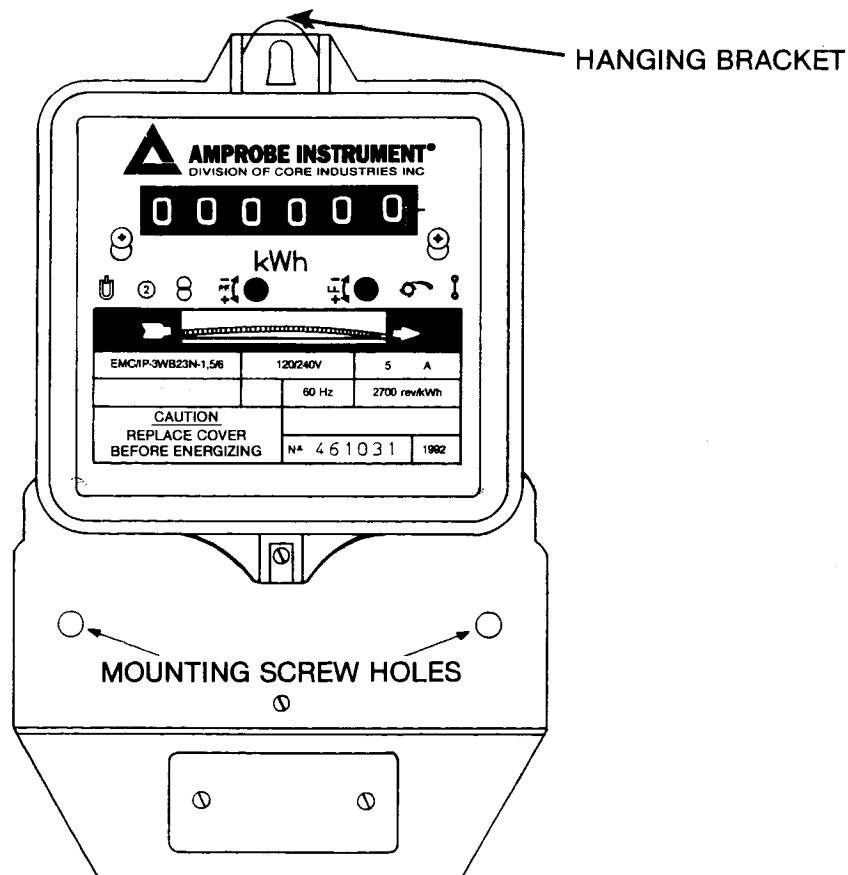

Figure 1
3. Hang the meter on the screw and install lower mounting screws (min 2½" × 10p) in the pre-drilled holes. (see Fig. 1.)